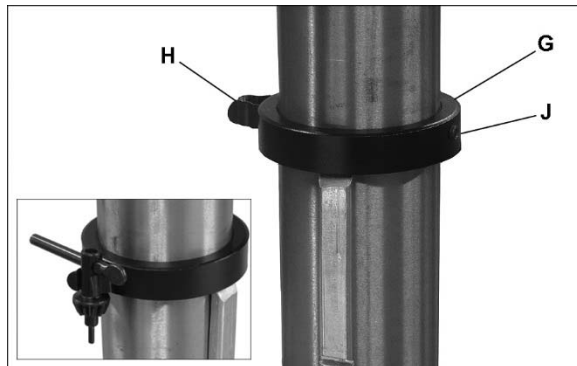

Figure 8
9. Place stop collar (G, Figure 8) onto column and slide it down over top end of rack. Orient the stop collar so that chuck key holder (H) is in desired position around the column.
10. Tighten set screw (J) with a 4mm hex key.
11. Push chuck key into holder (inset, Figure 8)
The chuck key can be stored in the clip on the collar (see Figure 8).